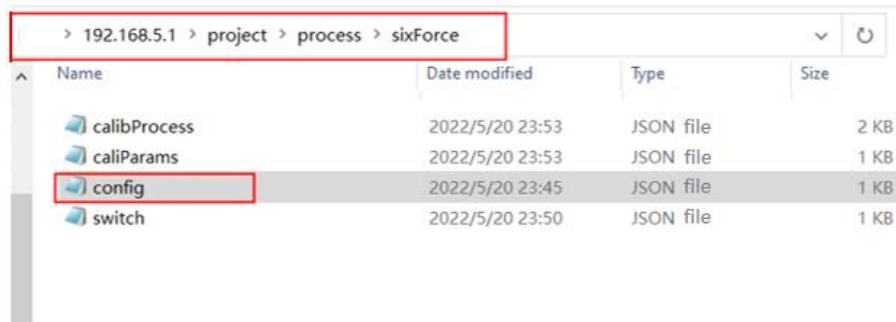

Figure 3.2 Open the force sensor file
Step 2 Enter the controller folder, as shown in Figure 3.2, and open the “config” file.